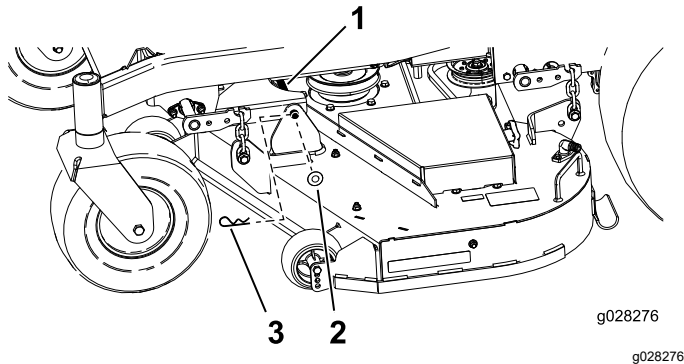

Figure 64
5. Remove the hairpin cotter and washer securing the link pin to the frame and deck, and remove the link bar (Figure 64).
9. Secure the link pin with the hairpin cotters and washers removed previously (Figure 64).